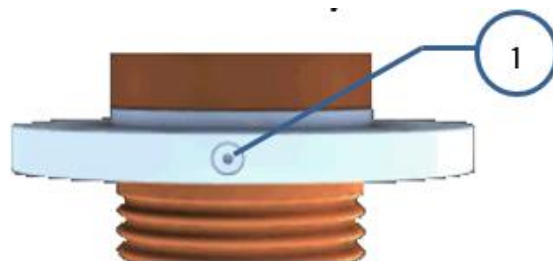

Fig. 9
The screw visible in figure 9, it is connected to the earthing device which grounds the condenser body, instead of the PF tap (Fig.9 – item 1).
Screw item 1 fig. 9 that grounds the internal condenser body to the flange shall NOT be removed.